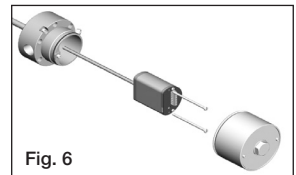

Fig. 6
Step 5: Carefully slide electronics module/waveguide assembly out of the pressure housing. Avoid bending the waveguide assembly. (Fig. 6)